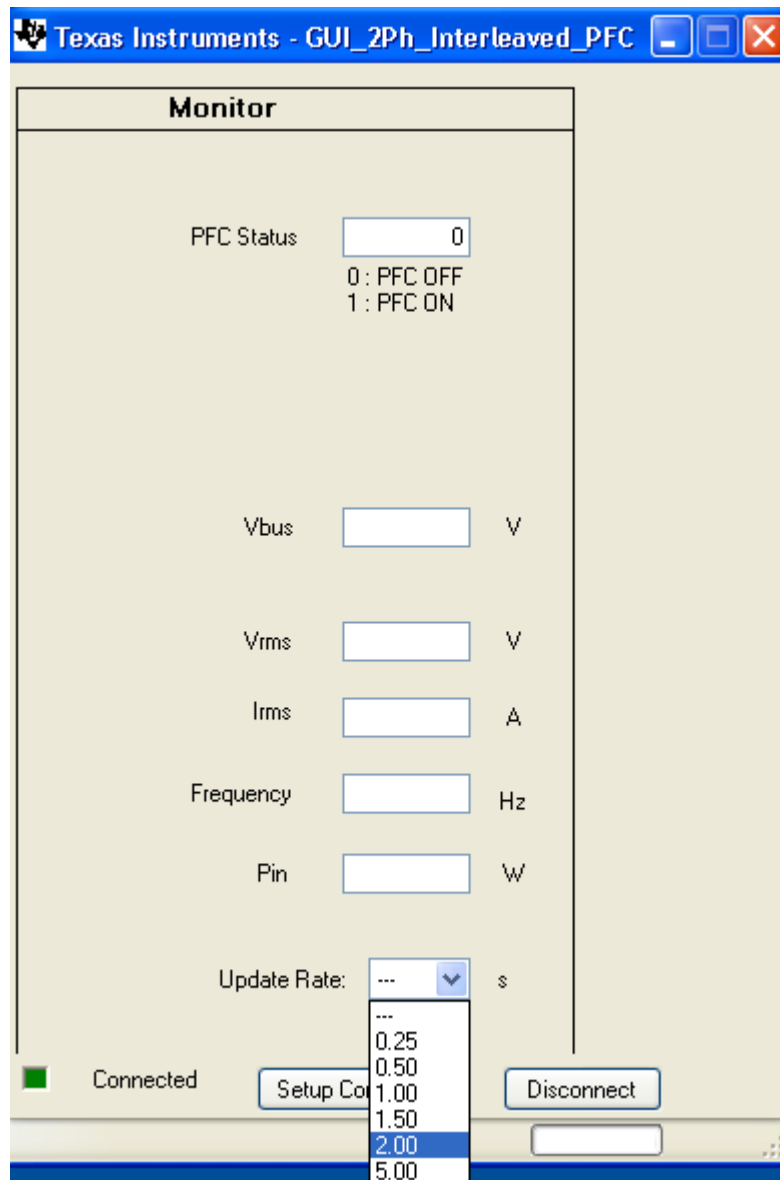

Figure 1. Select Parameters
8. Select the parameter update rate as shown in Figure 1